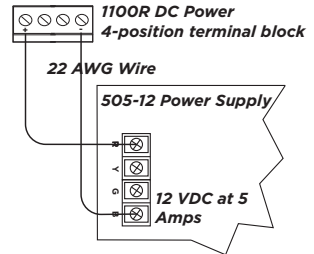

Figure 3: External Power Supply
1. Using a 22 AWG wire, connect the DC power terminal block to the DC terminal on the 505-12 power supply PCB. See Figure 3.